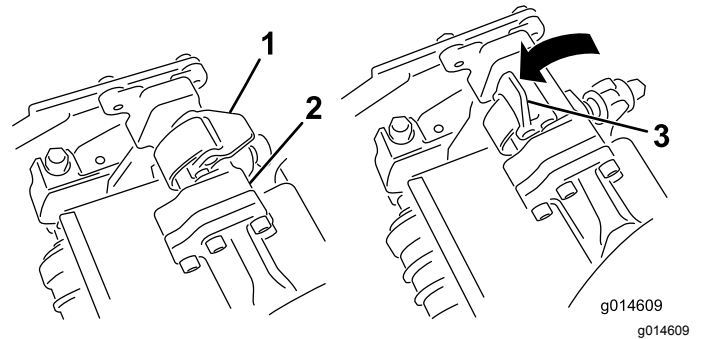
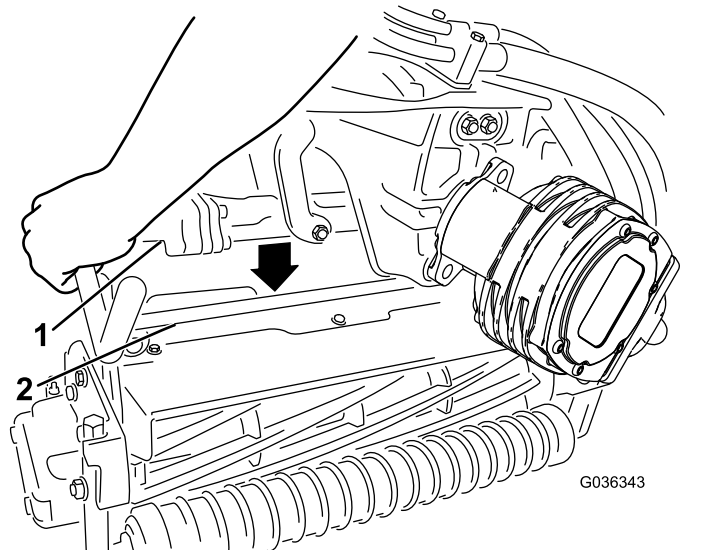

Figure 50
Figure 51
4. With the latches on the suspension-arm bar pointing up (i.e., open) (Figure 50), push the suspension arm down so that the bar fits over the bar across the top of the cutting unit (Figure 51).
5. Close the latches down and around the cutting-unit bar and lock them in place (Figure 50).
5. Open the latches on the suspension-arm bar of the cutting unit you are removing (Figure 50).